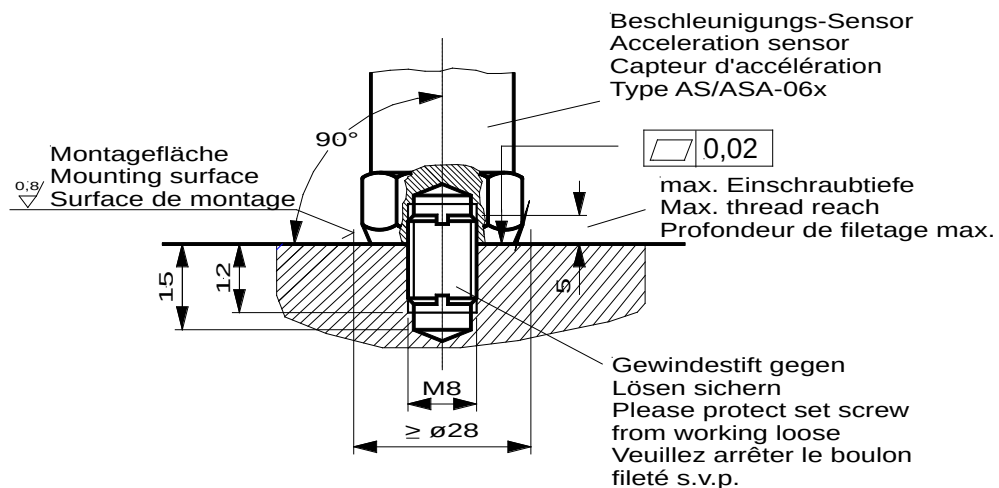

Figure9-1) Installation ASA-063
- Screw in the set screw as shown in **Figure9-1** and secure it with e.g. LOCTITE 243 medium strength or LOCTITE 270 high-strength